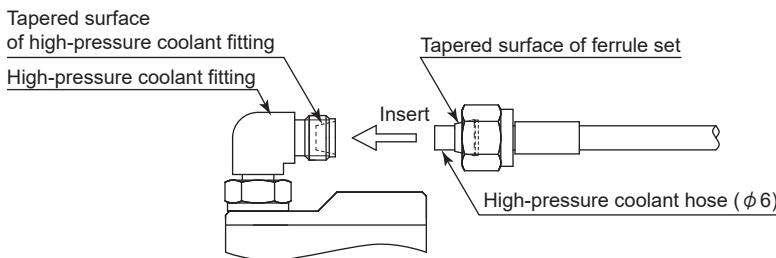

Fig. 25
(1) Insert the high-pressure coolant hose (diameter  $\phi 6\text{mm}$ ) so that the tapered surface of the ferrule set fastened to the high-pressure coolant hose (diameter  $\phi 6\text{ mm}$ ) fits tightly against the tapered surface of the high-pressure coolant fitting. (Fig. 25)